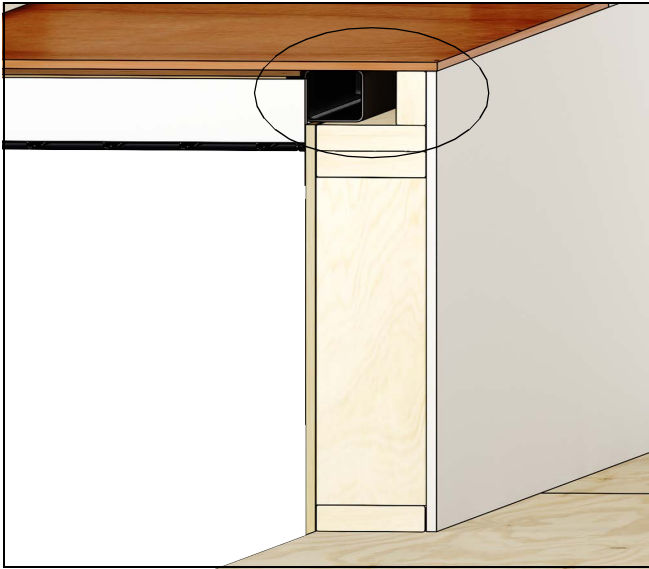

Figure 50
5. Install backer at the inside of the R.O. to act as support for both the finished seat board and sheet rock. Install pan flash to the upturned leg up onto the upturned leg and over the pre-existing pan flash to achieve weather board water management. See Figure 50.